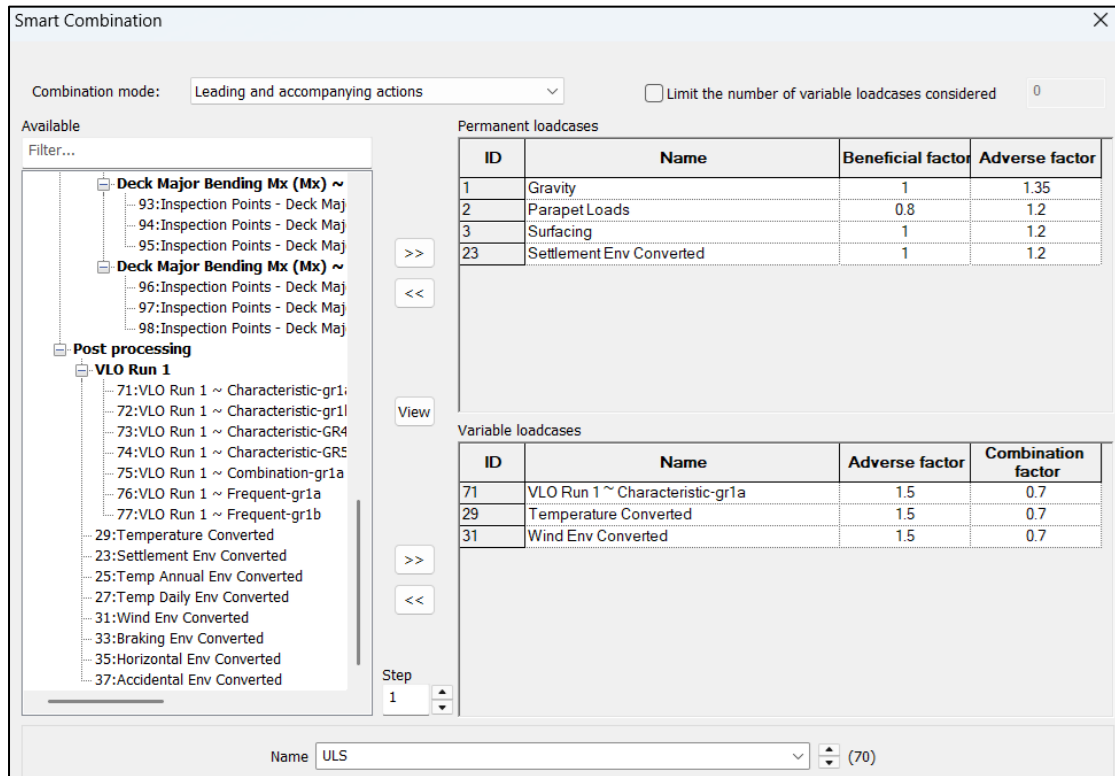
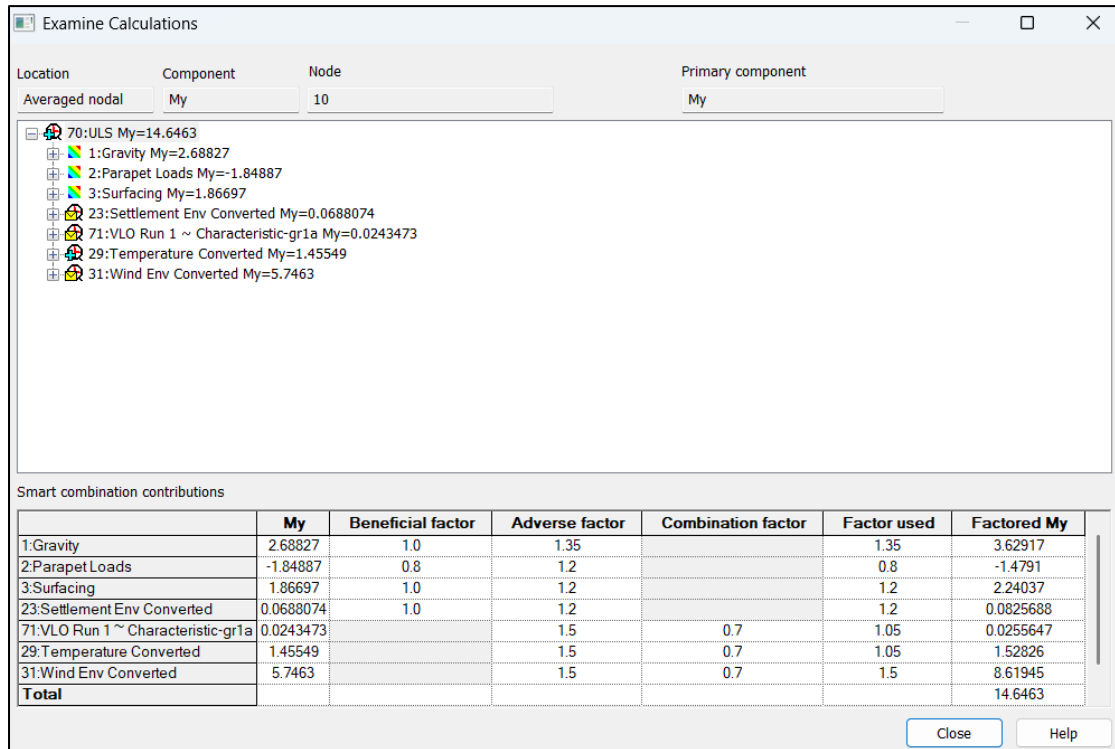
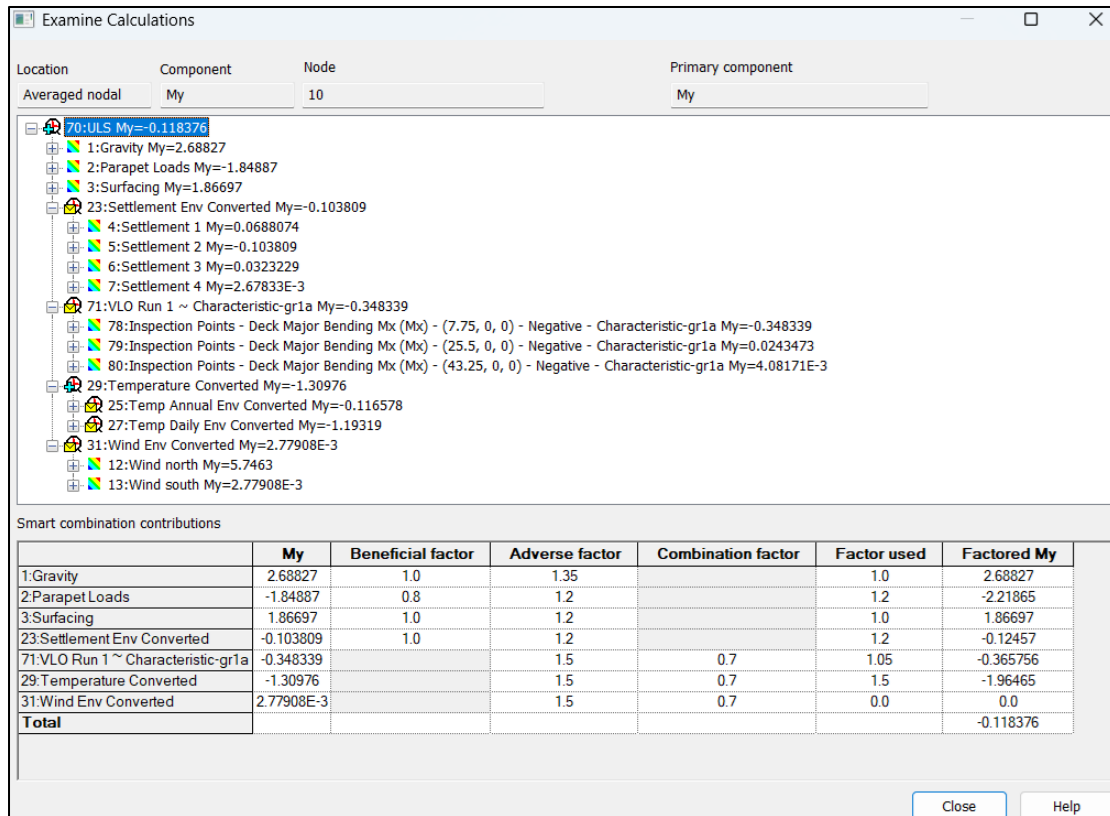

Figure 3 – Smart combination – Leading and accompanying actions mode.
Figure 4 – Smart combination – Leading and accompanying actions mode – Maximum result.
Figure 6 – Smart Combination – Minimum result.
When the mode is set to *Leading and accompanying actions*, as shown in Figure 3, combination factors must be specified as well. In this example, all variable loadcases have a combination factor of 0.70. Additionally, all variable loadcases are included, as the option to limit their number is disabled. The maximum result is presented in Figure 4.
In this example, the combination shown in Figure 3 is examined. It includes three individual loadcases (1, 2, and 3), three envelopes (23, 31, and 71), and one smart combination (29). Figure 6 shows the contribution of each loadcase, along with the minimum result. The symbols